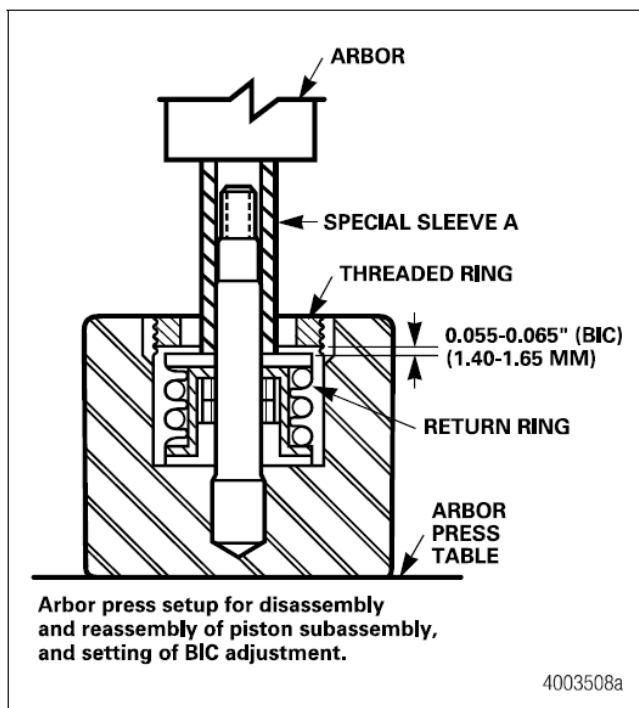
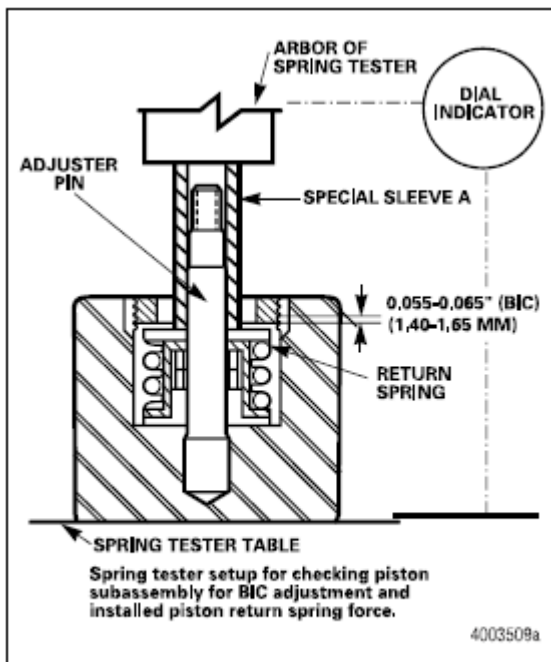
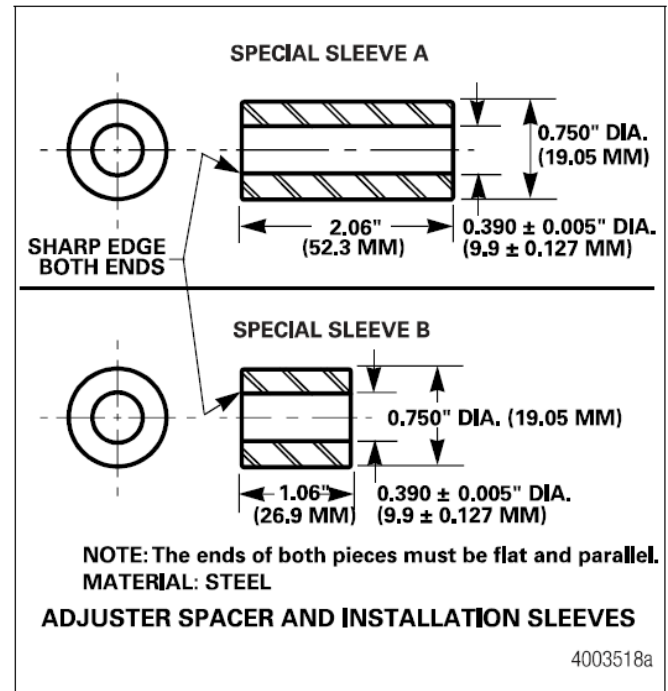
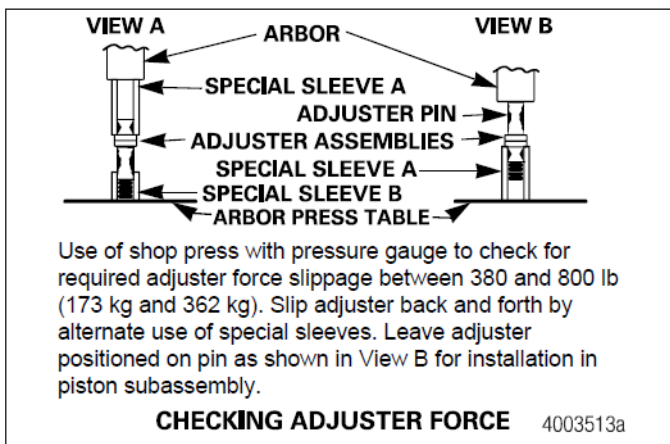

Figure 3.14
Figure 4.1
FIGURE 4.5.1
Figure 4.5
3. Place the piston subassembly on an arbor press table. Figure 3.14. Use special sleeve A. Figure 4.5.1, over the adjuster pin. Lower the arbor and compress the return spring to minimum height, and hold.
1. Place the piston subassembly onto spring tester table. Install special sleeve A, figure 4.5.1, over exposed adjuster pin. Figure 4.1.
3. Lower the spring tester arbor to compress the spring to minimum height. Figure 4.1 the indicator pointer will stop rotating.
To obtain adjuster force measurements of the adjuster subassemblies installed onto the adjuster pin, it is necessary to remove the adjuster pin and adjuster from the piston subassembly and have a force calibrated hydraulic shop press. The press must have a gauge capable of reading up to 800 pounds of force accurately calibrated. Obtain force measurements as illustrated in Figure 4.5.
1. Use both special sleeves, shown in Figure 4.5.1 as illustrated in Views A and B of Figure 4.5 to slip the adjuster back and forth several times on the adjuster pin.
- If slippage occurs between the specified limits, slip the adjuster to position on the pin as shown in Figure 4.5 or 4.5.2 reinstall it into the piston subassembly.
6. Position the piston assembly onto an arbor press table. Figure 3.14. Use special sleeve A shown in Figure 4.5.1 over the adjuster pin. Position the threaded ring over the special sleeve.